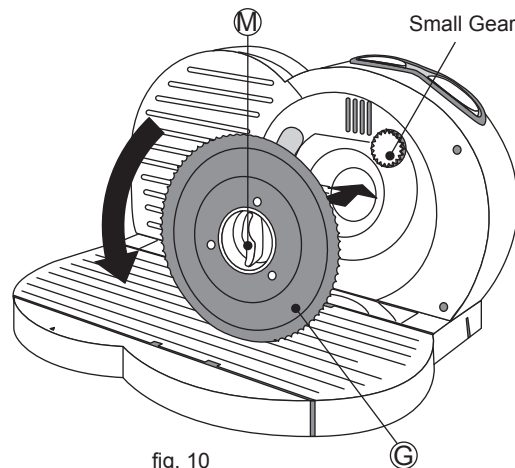

fig. 10
2. To reinsert the Blade Assembly (G), line up the tabs on the Blade Assembly (G) with the slots in the Small Gear. Once the Blade Assembly is seated with the Small Gear, turn the Blade Lock (M) anticlockwise to lock it in position.
- See fig. 10.